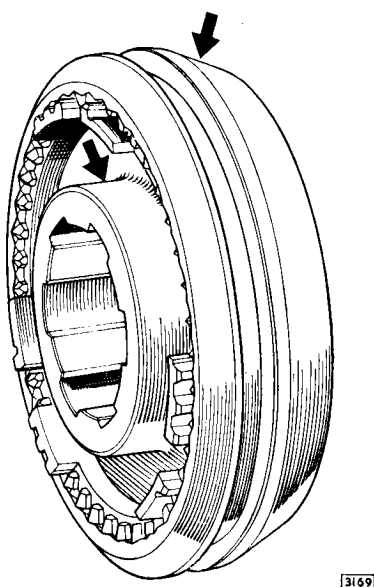

Fig. 8. Assembly of synchro hub.
- (i) The wide boss of the hub on the opposite side to the wide chamfer end of the sleeve (see Fig. 8).